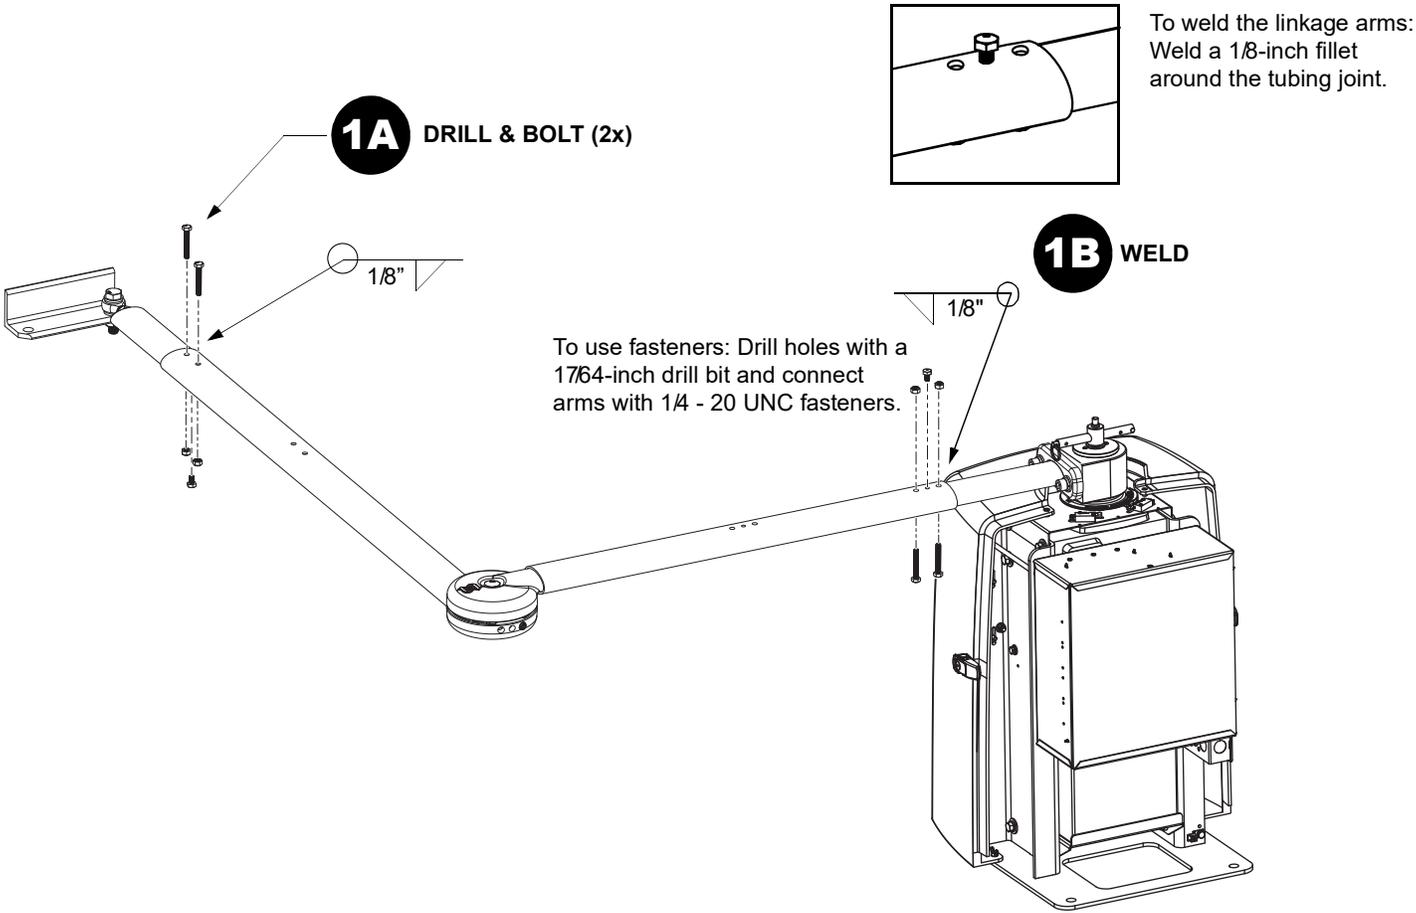

Figure 14. Completing Gate Arm Installation
- 1A: DRILL & BOLT:** If you plan to use fasteners, drill holes through the linkage arms. Refer to Figure 14.